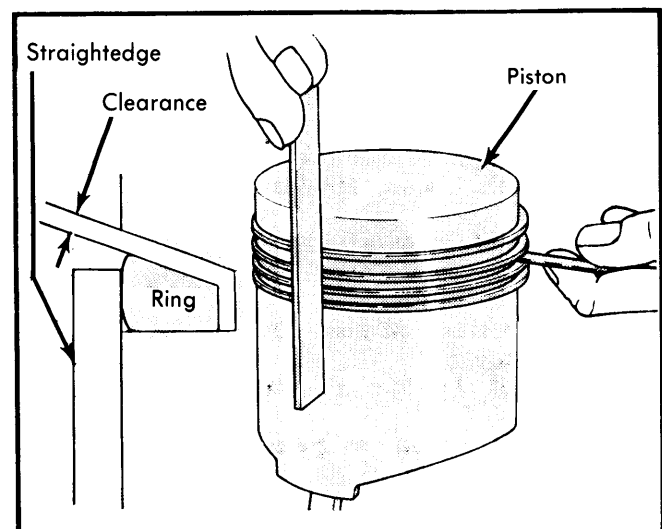

Fig. 10 Measuring Piston Groove
3) Install rings in piston in proper order and measure side clearance as shown in Fig. 10. Hold rings flush with piston surface with straightedge. Insert feeler gauge. Clearances are as follows: